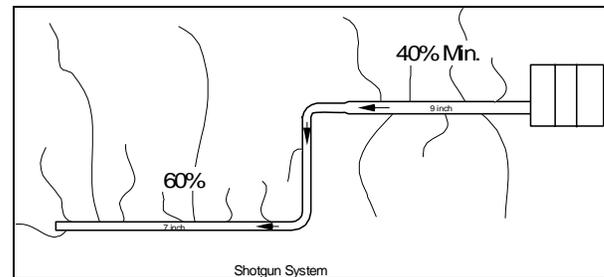

Figure 4. Typical Shotgun System Layout
6. **Horseshoe / Perimeter Patterns:** Where horseshoe or “H” systems are used, consider closing the horseshoe or end of the “H” into a perimeter loop (see Figure 4).